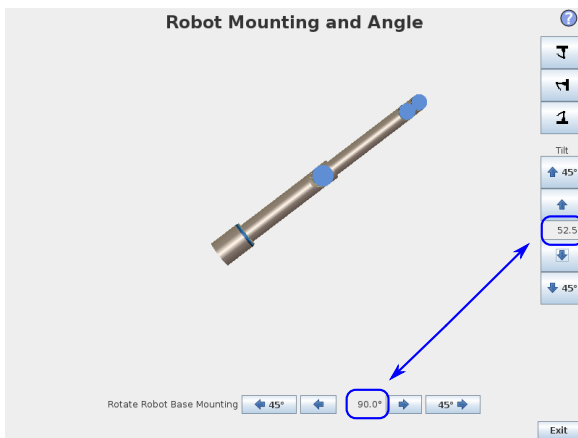

Figure 2.4: Mounting of the robot
- (3) From the Initialization screen set the robot mounting and angle (click the "Configure Mounting" button), see Figure 2.4: